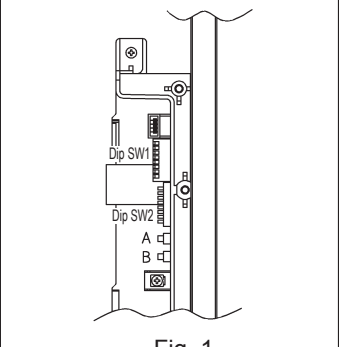

Fig. 1
- Check the gas type using the data plate on the side of the unit. Confirm that the gas type switch is in the correct position (switch 1 of Dip SW2 is ON for natural gas, NG, and OFF for propane gas, LPG.) Figure 1.